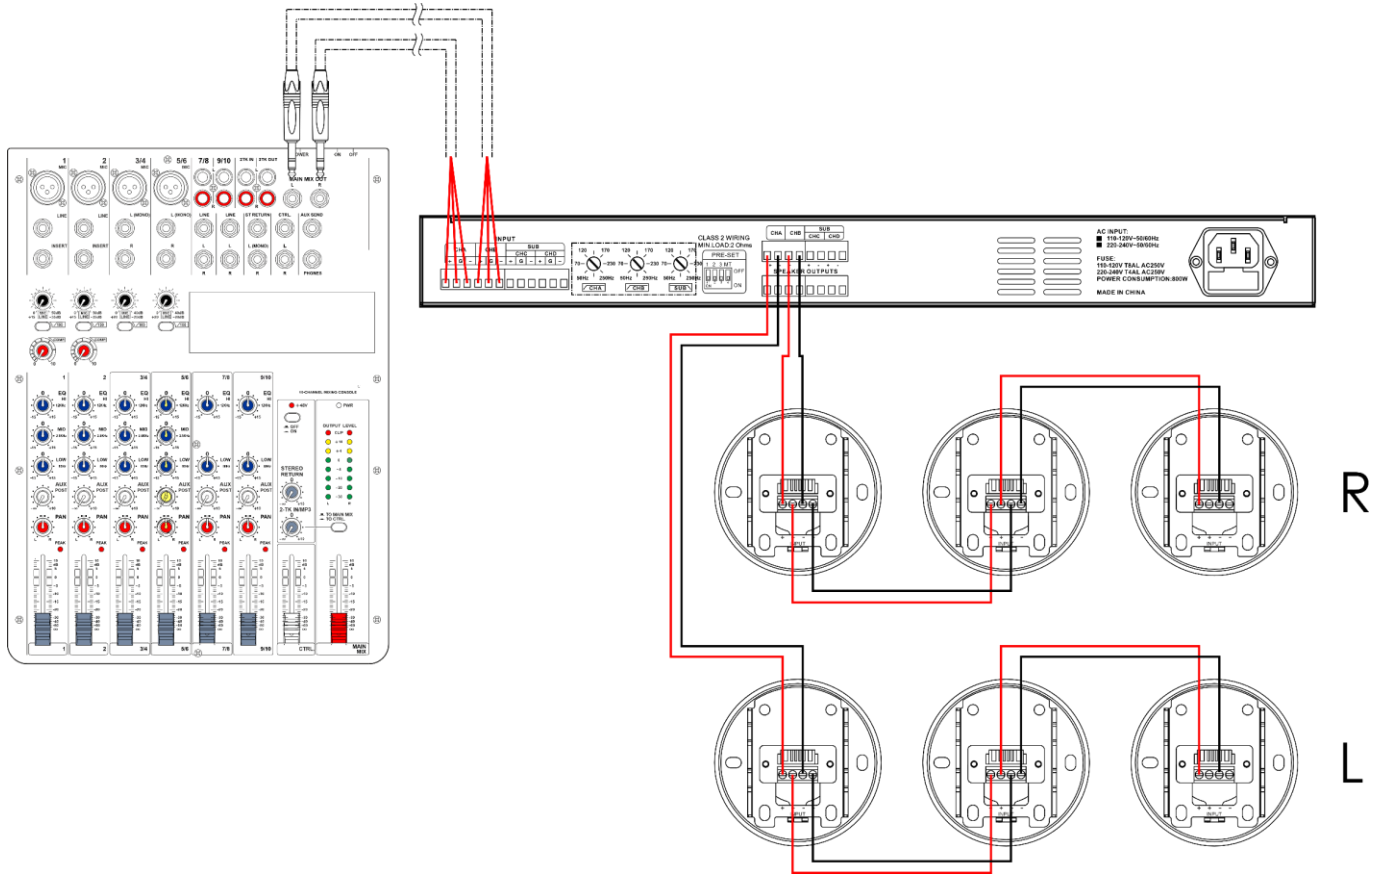

Fig. 13
- 01) Connect the (-) output of the conventional amplifier to one of the (-) connectors on the **mounting plate (07)** of the first speaker.
- 02) Connect the (+) output of the conventional amplifier to one of the (+) connectors on the **mounting plate (07)** of the first speaker.
- 03) Connect multiple speakers as shown in Fig. 13.